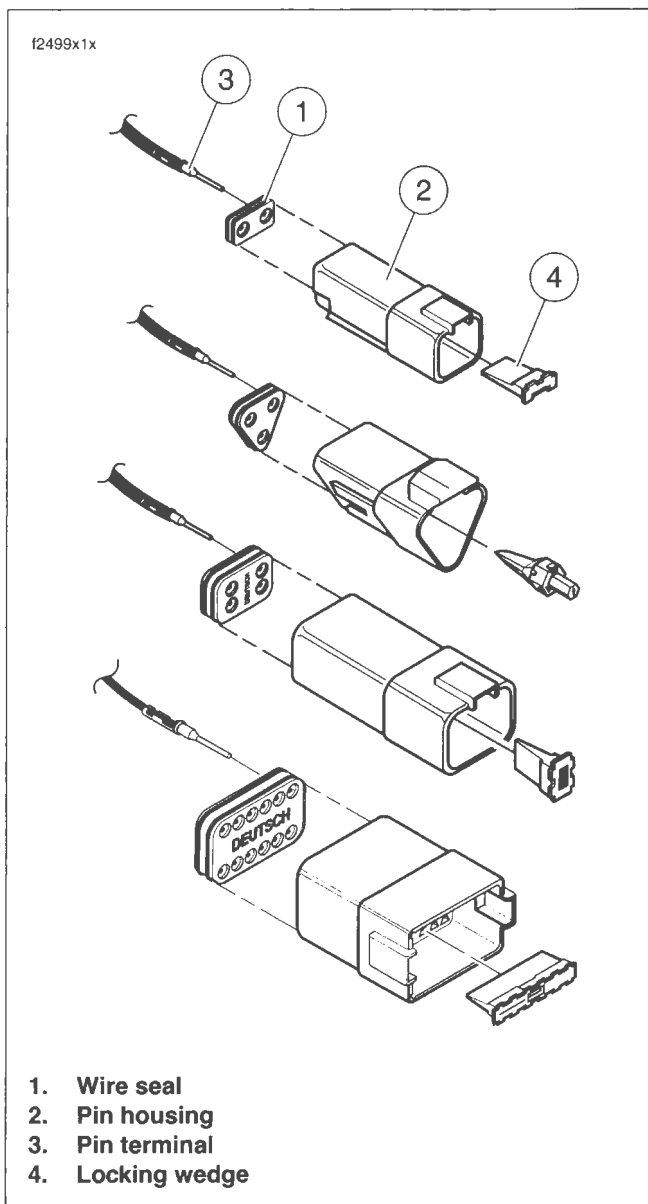

Figure B-18. 2, 3, 4 and 12 Place Pin Housings
1. See Figure B-18. Fit wire seal (1) into back of pin housing (2).
2. Grasp wire lead approximately 1 in. (25.4 mm) behind the pin terminal (3). Gently push pin through holes in wire seal into its respective numbered chamber until it "clicks" in place.